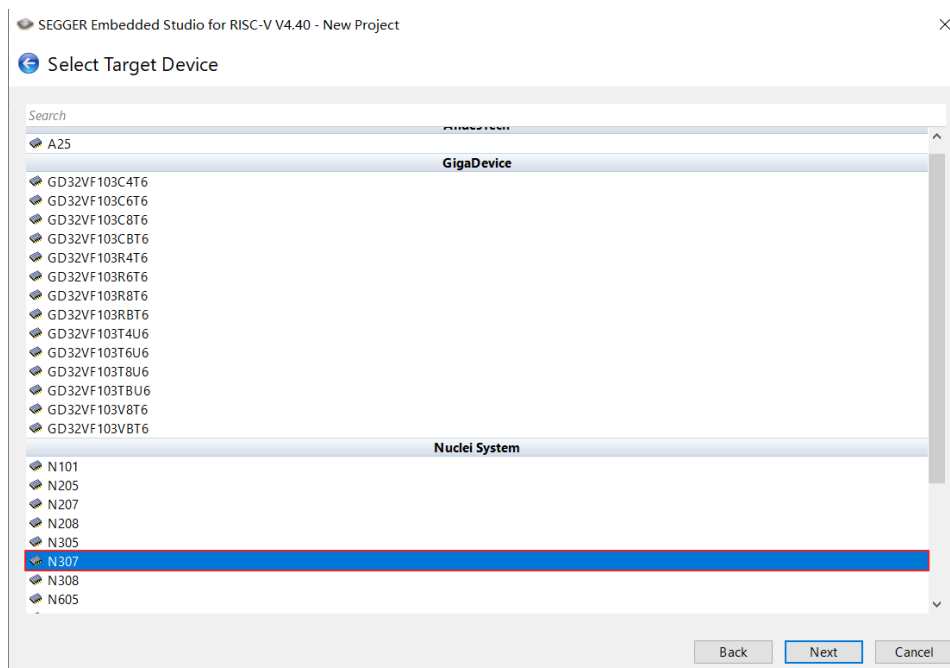

Figure 2-8 Choose Target Device
- Select n307 (as an example) as the target device, as shown in Figure 2-8, then click next.